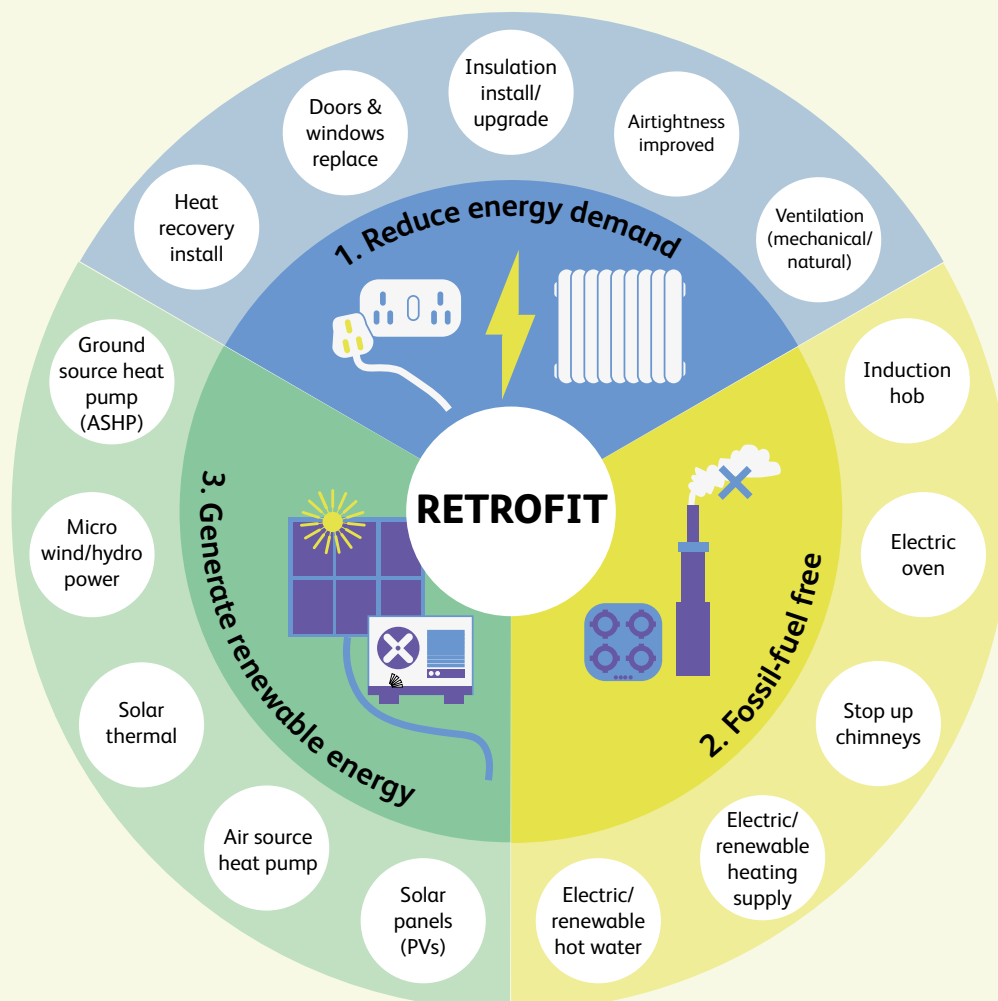

Figure 3.1 – A whole-building approach to retrofit.
3.3 While the whole-building approach to retrofit requires looking at each existing building and the project particulars to find the most suitable solutions, as shown in Figure 3.1 below, there are three consistent principles that underpin all retrofit works for any retrofit project looking to maximise carbon savings, regardless of the building specific circumstances;